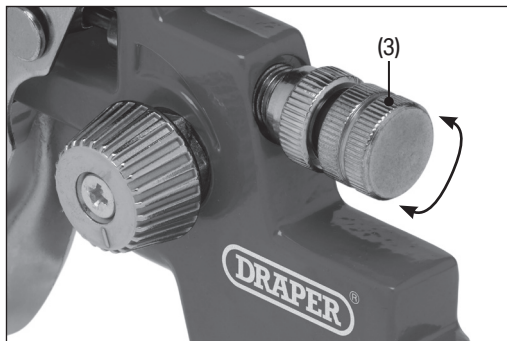

Fig. 9
The fluid control dial (3) adjusts the amount of paint that is released into the airflow and the density of the spray when the trigger is fully depressed (Fig. 9):